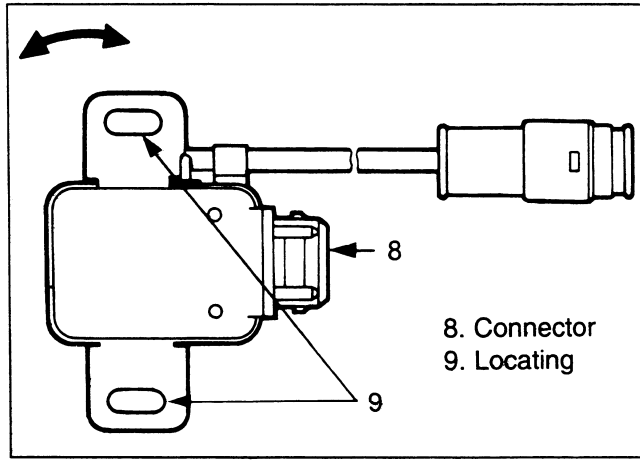

Figure 10. Throttle Position Sensor
**Adjust (Figures 10 and 11)**